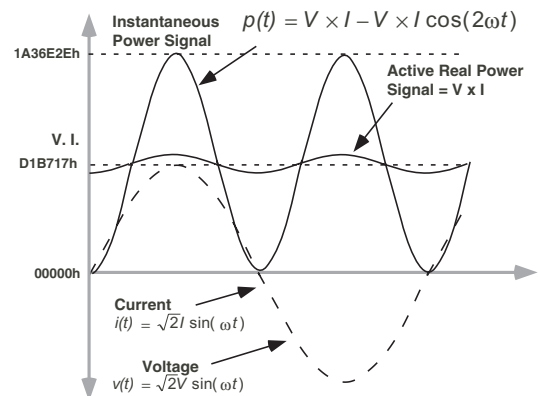

Figure 20- Active Power Calculation
P is referred to as the Active or Real Power. Note that the active power is equal to the DC component of the instantaneous power signal  $p(t)$  in Equation 5, i.e., VI. This is the relationship used to calculate active power in the ADE7754 for each phase. The instantaneous power signal  $p(t)$  is generated by multiplying the current and voltage signals in each phase. The DC component of the instantaneous power signal in each phase (A, B and C) is then extracted by LPF2 (Low Pass Filter) to obtain the active power information on each phase. This process is illustrated graphically on Figure 20. In a polyphase system, the total electrical power is simply the sum of the real power in all active phases. The different solutions available to process the total active power are discussed in the following paragraph.
As mentioned in the last section, the discrete time sample period (T) for the accumulation register is 0.4µs (4/CLKIN). With full-scale sinusoidal signals on the analog inputs and the Watt Gain registers set to 000h, the average word value from each LPF2 is D1B717h - see Figures 20 and 22. The maximum value which can be stored in the Active Energy register before it over flows is 223 -1 or 7F,FFFFh. As the average word value is added to the internal register, which can store 233 - 1 or 1F,FFFF,FFFF,FFFFh before it overflows, the integration time under these conditions with WDIV=0 is calculated as follows: